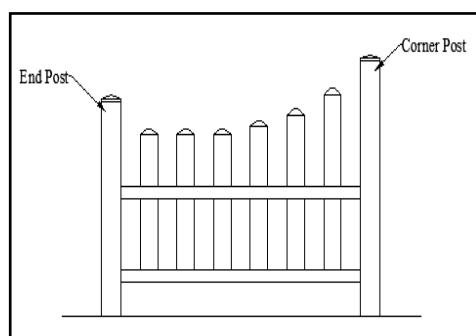

Fig.3
3. Slip each picket down through the top rail and into the bottom rail on either side of the corner post. The order of the pickets is shown in Fig 3. Start with longest picket closest to taller center post. Insert the remaining pickets from largest to smallest from Center Post to End Posts. Complete filling the holes and square up Accent Fence.